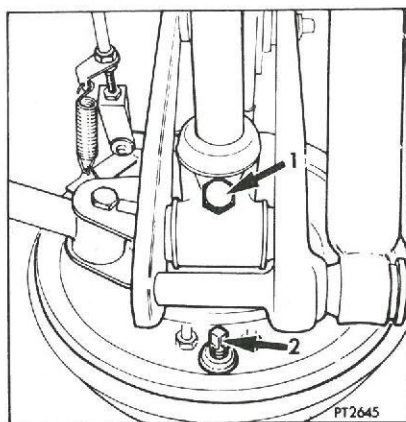

Fig. 20
*Brake-shoe adjustment*—Turn the adjusters (one on each wheel—see item 2, Fig. 20) in a clockwise direction, viewed from the centre of the car, to lock both wheels. Turn back the adjusters until each wheel is just free to rotate and lower the car to the ground.
#### Rear Hubs (Fig. 20 page 50)